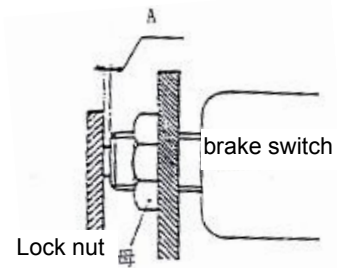

Figure 2-7 Brake light switch
- (5) Adjust the brake switch as shown in Figure 2-7